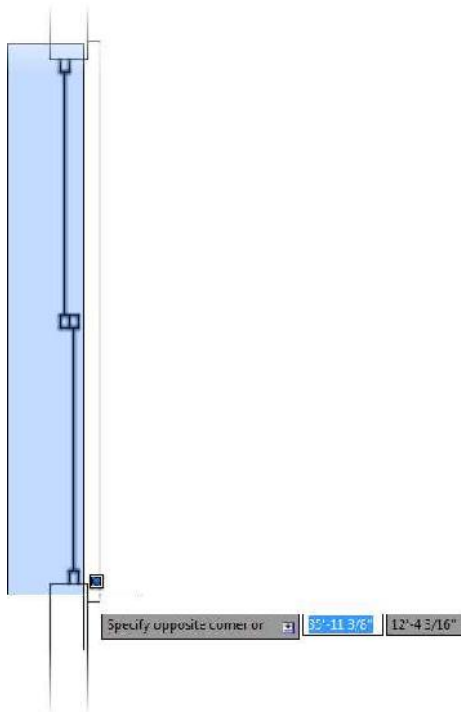

FIGURE 6.26: Using a regular selection window to select the sliding glass door
- b. Move your cursor, and pick a point to the right of the sliding glass window until the right edge of the window (blue background with solid boundary line) is just inside the wall, but just to the right of the sliding glass door itself (as shown in Figure 6.26).